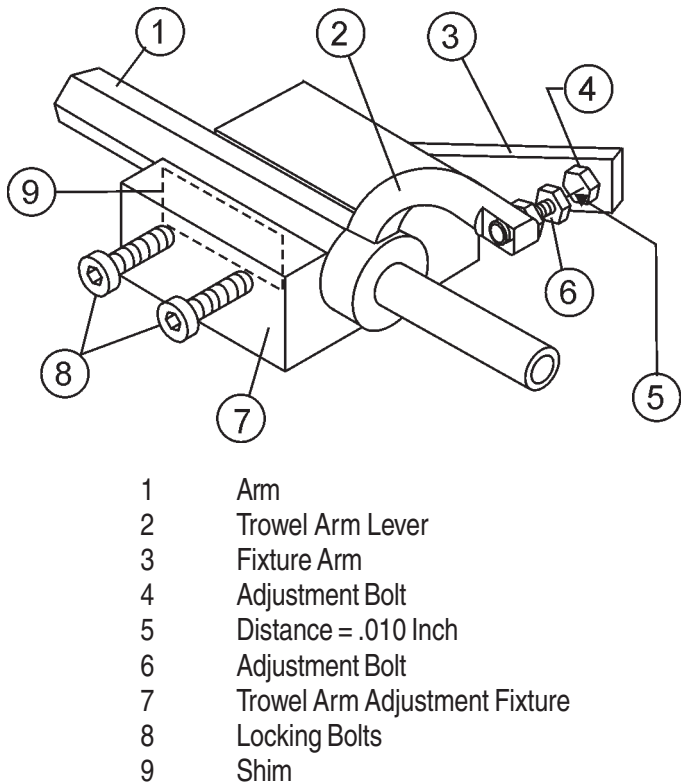

Figure 38. Trowel Arm Adjustment Fixture Components
Shown in (Figure 38, Page 37) is the adjustment fixture with a trowel arm inserted. As each trowel arm is locked into the fixture, the arm bolt is adjusted to where it contacts a stop on the fixture. This will consistently adjust all of the trowel arms, keeping the finisher as flat and evenly pitched as possible.
3. Unscrew the locking bolts on the adjustment tool and place the trowel arm into the fixture channel as shown in Figure 38. A **thin shim** may be required to cover the blade holes on the trowel arm. Make sure to align the **trowel** adjustment bolt with the **fixture** adjustment bolt.